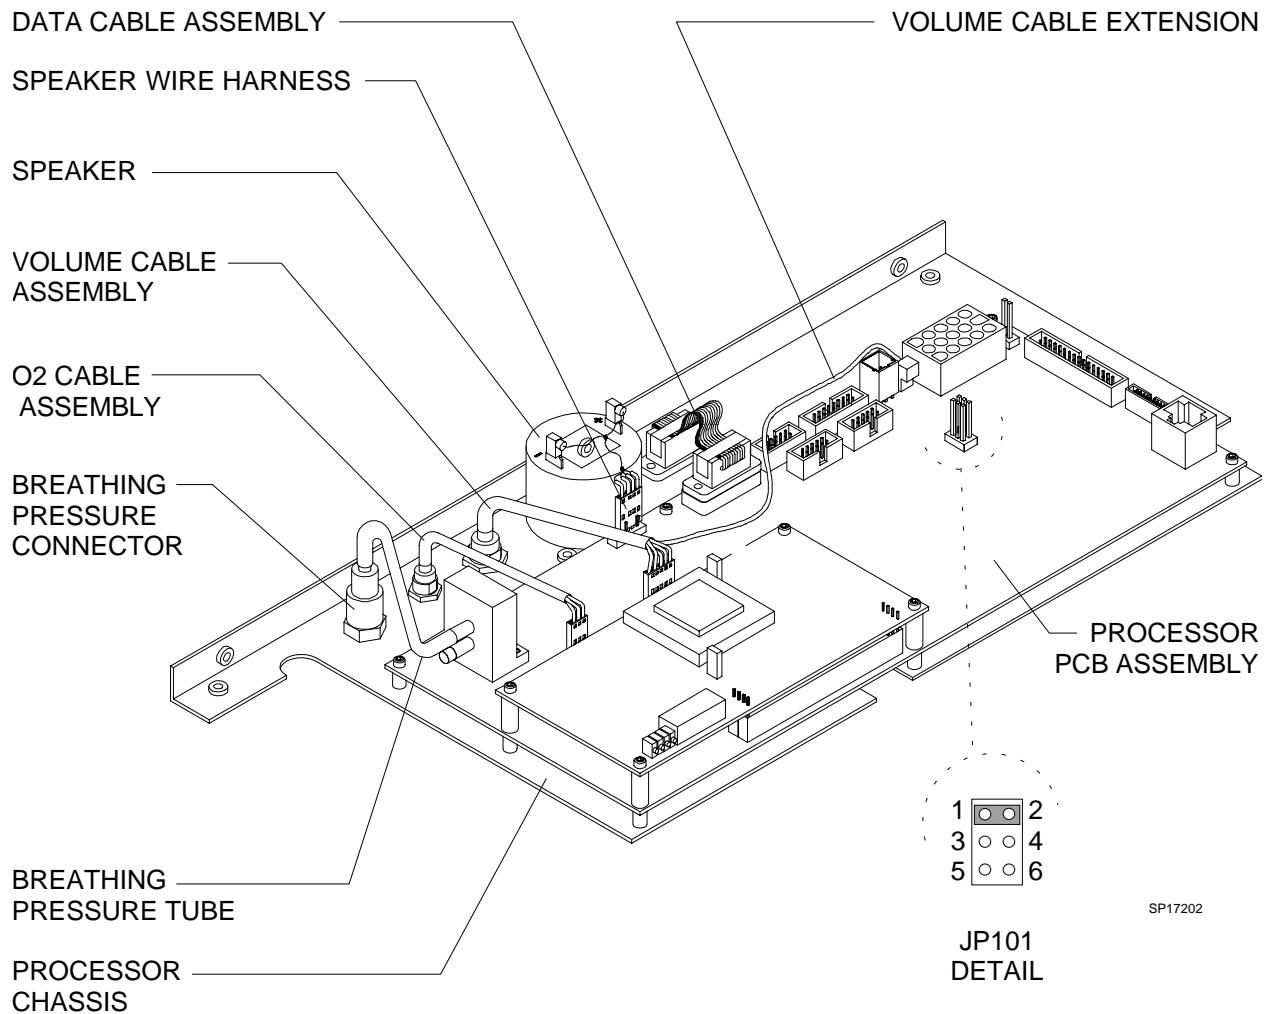

FIGURE 2. Processor PCB Installation on New Chassis
9. Disconnect the following items from their connectors on the processor PCB assembly: See Figure 2.
12. Install the new volume cable assembly (if not already installed) in the new chassis. Connect the volume cable extension (see Figure 2) to J3 on the processor PCB assembly.
14. Install a configuration jumper across Pins 1 and 2 of JP101 on the GS personality card. (This will reconfigure the software for the ultrasonic flow sensor.) See detail in Figure 2.